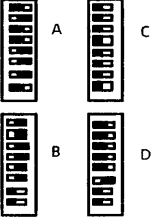

Figure 10. Configuration Sheet
1. Switch the 4045 power off and then on. The Configuration Sheet (Figure 10) is printed.
3. The configuration sheet confirms that the 4045 is set for Parallel, Centronics, and US English communication (as shown in Figure 10).
14. Switch on the 4045 power. The configuration sheet (Figure 10) is printed.